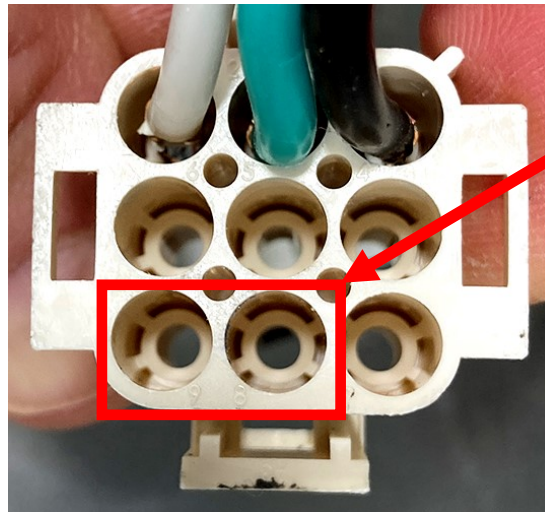

Fig 11B
13. Insert the pins of the provided harness into pin positions 8 & 9 (Figure 11B). Reconnect plug.